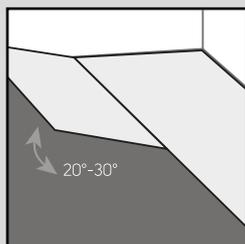

Fig. 3
- 4a. Start the second row by clicking the tongue into the groove holding the plank at an angle (approximately 30°), then tap the plank firmly into the groove of the first row. (Fig.3).